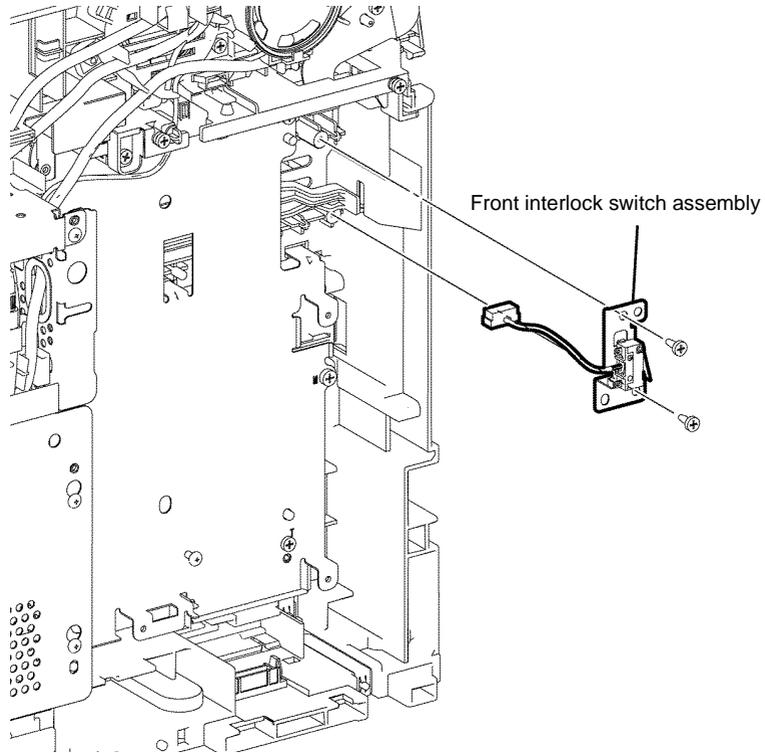

Figure 1 Front interlock switch assembly removal
9. Remove two screws (silver, tapping, 8mm), then remove the front interlock switch assembly, Figure 1.